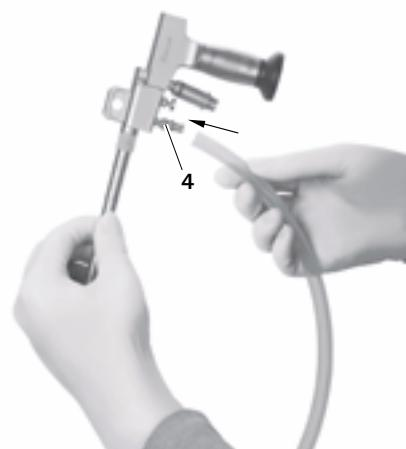

Fig. 20
- ▶ Connect the irrigation tube with the irrigation connector 4, see Fig. 20.